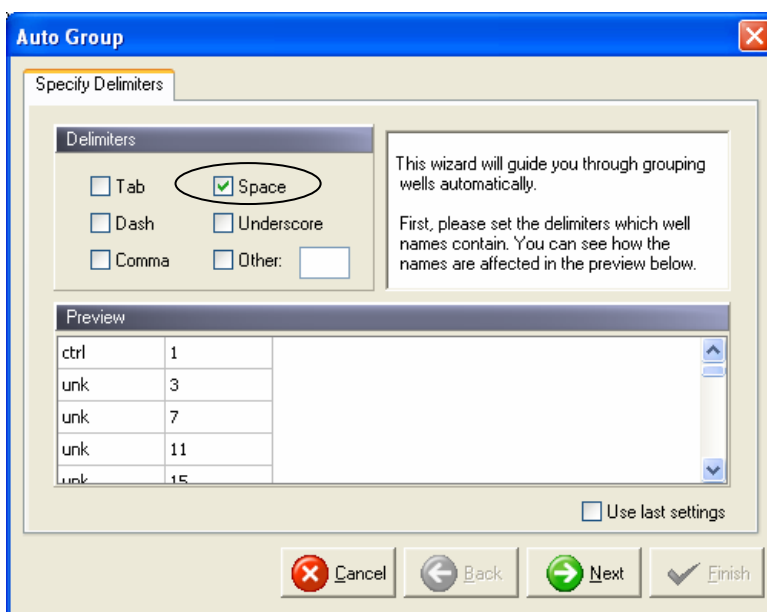

Figure 4.10 Specifying delimiters
2. Step 1: specify delimiters. Users choose or set delimiters to segment sample names. The segmented results are displayed at the same time (Figure 4.10).